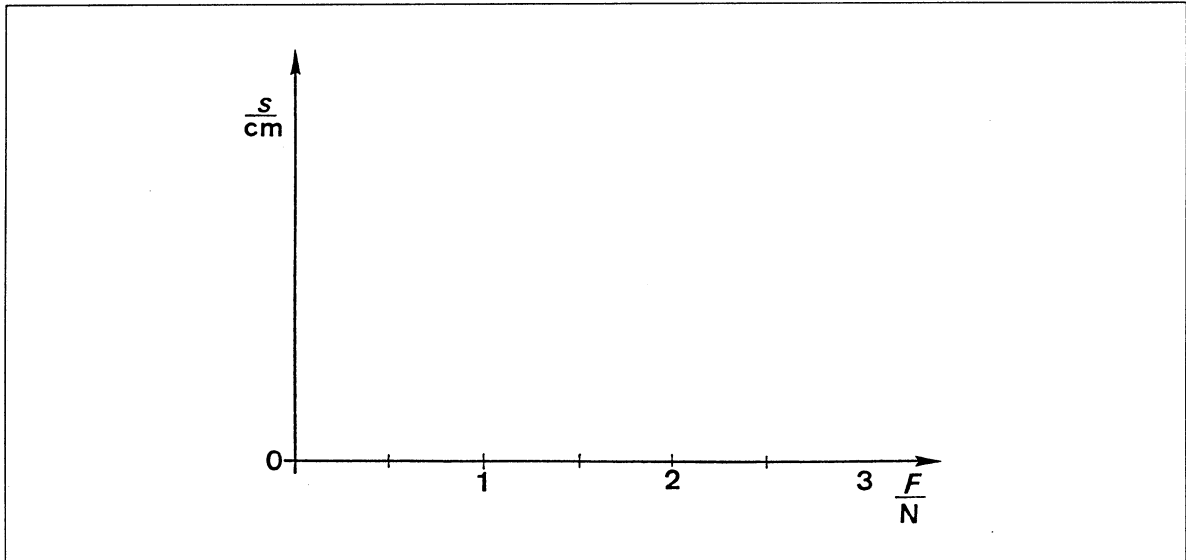

Fig. 2 Coordinate system
12. Copy the values you recorded onto a coordinate system, as shown in fig. 2. Take careful note of the text (labels) on each axis!